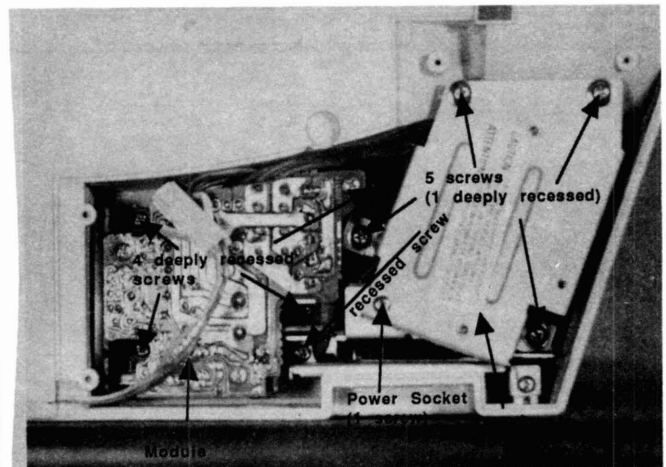

Figure 4
9. Power Supply Module (Power Supply/ Woofer Amp PCBs) Removal (Figure 4)
14. Power Supply PCB Module Replacement (Figures 4 and 5)
15. Transformer Module Removal (Figure 4)
16. Power Socket PCB Removal (Figure 4)
17. Transformer/Power Socket PCB Module Replacement (Figure 4)